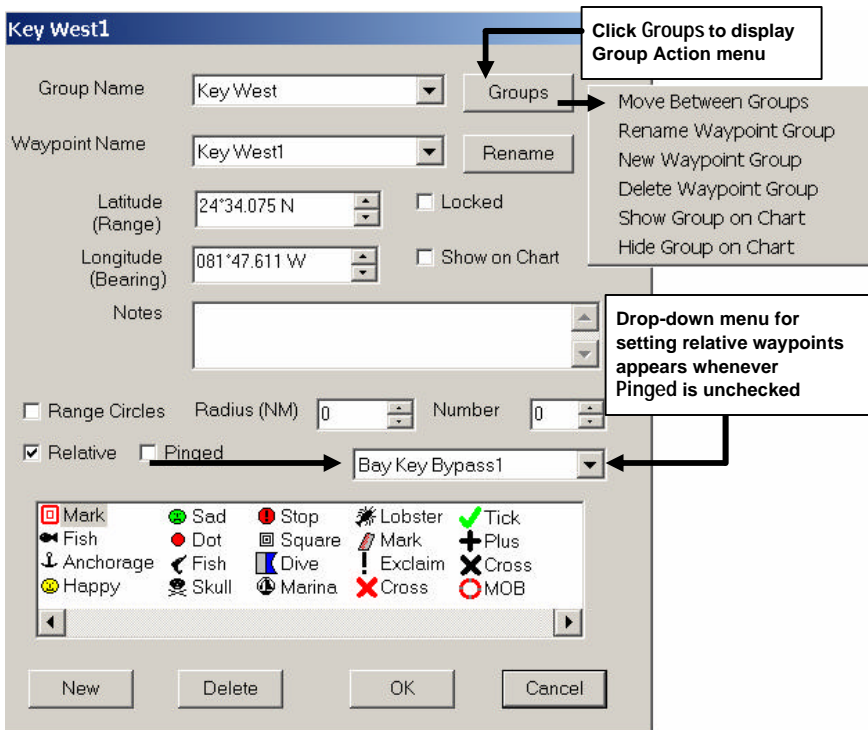

Figure 4-20. Waypoint Properties Dialog Box: Editing Waypoints
2. Select **Waypoint Properties** to display the Waypoint Properties dialog box (Figure 4-20).
- **Groups** button – Displays group action menu (Fig. 4-20).
2. On the chart, double-click WP2. The Waypoint Properties dialog box is displayed (Figure 4-20).
1. Double-click on WP2 to display the Waypoint Properties dialog box (Figure 4-20).
1. Select **Edit Route** from the Route menu, then click **Waypoint Properties** to display the Waypoint Properties dialog box (Figure 4-20).
2. As shown in Figure 4-20, click **Groups** to display the Group Action popup menu.
1. Double-click on a waypoint (or select **Edit Route** from the Route menu, then click **Waypoint Properties**) to display the Waypoint Properties dialog box (Figure 4-20).
3. As shown in Figure 4-20, click **Groups** to display the Group Action popup menu.